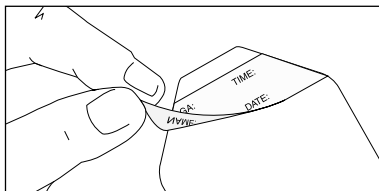

Fig. 3
4. Record dressing change information and apply label near site (refer to Fig. 3).